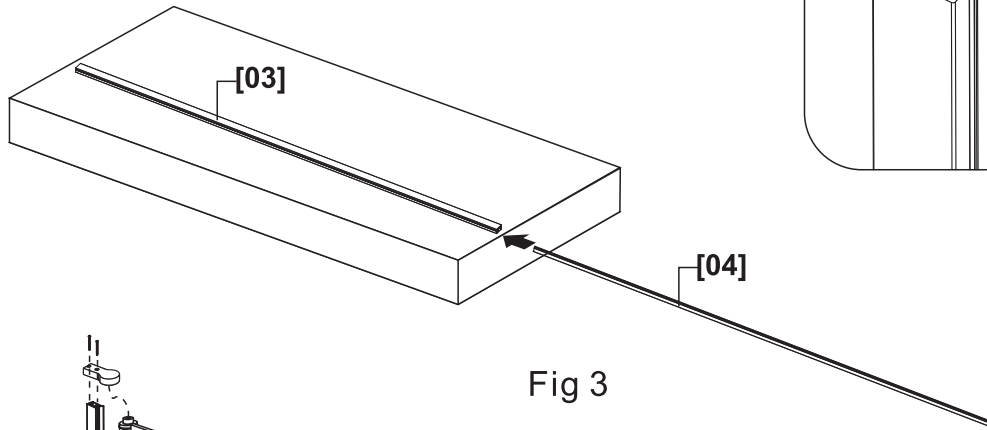

Fig 3
1. Slide the **Side Water Sealing Strip [04]** to the groove of **Vertical Profile [03]**. (Fig 3)